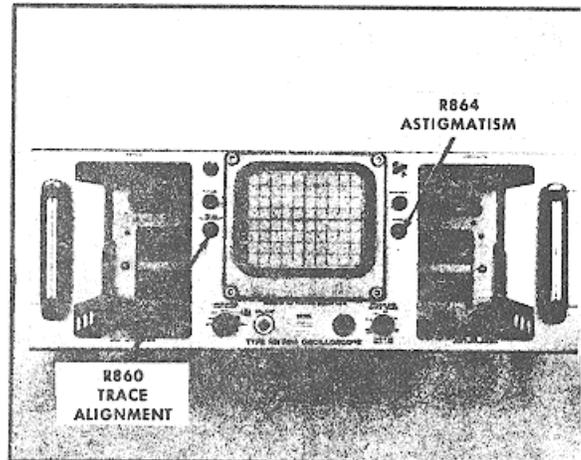

Fig. 6-12. Location of ASTIGMATISM and TRACE ALIGNMENT controls(front panel).
- b. ADJUST--FOCUS control and ASTIGMATISM adjustment, R864 (Fig. 6-12) for a sharp, well-defined display over the entire trace length.
- c. ADJUST-TRACE ALIGNMENT adjustment, R860 (Fig. 6-12), so the trace is parallel with the horizontal graticule lines.